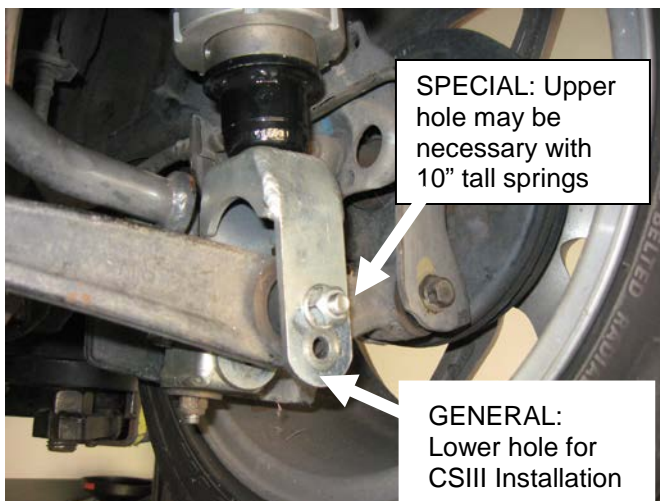

Figure 7
21. Install the rear coilover assembly into the vehicle, using the M10 x 80mm bolts for the lower mounts. (Figure 7). On 1996-2000 models, the four clevis spacers shown in the illustration will be necessary.